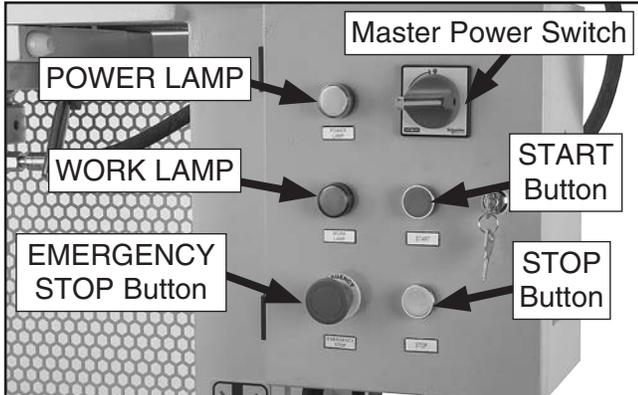

Figure 12. Control panel components.
2. Press EMERGENCY STOP Button (see **Figure 12**).
- Turn master power switch to "I" position (see **Figure 12**). Power lamp will illuminate when machine is receiving power.